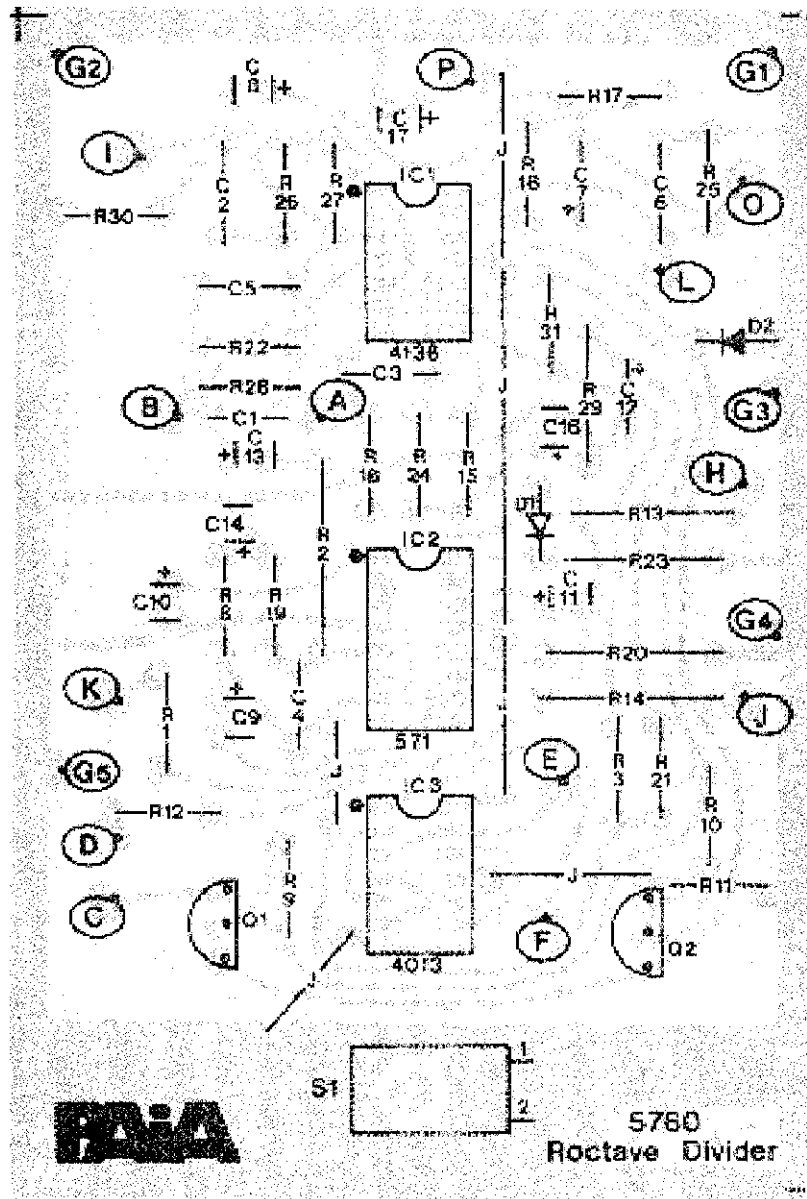

Fig 1: Circuit board Parts Placement
- () Using the BARE wire provided, form and install the 6 wire jumpers on the circuit board. The designator for the jumpers are the solid lines broken with the letter "J" printed on the component side of the board and in the parts placement drawing figure 1. Note that the wire supplied can be straightened by pulling it between your pinched thumb and forefinger several times.
Solder each of the fixed resistors in place following the parts placement designators printed on the circuit board and shown in the assembly drawing figure 1. Note that the fixed resistors are non-polarized and may be mounted with either of their leads in either of the holes provided. Insert both leads in the mounting holes and push the resistor FULLY against the board. On the conductor side of the board, bend the leads outward to about a 45 degree angle to help hold the component in place while soldering. AFTER SOLDERING, clip off each lead end flush with the top of the solder joint.